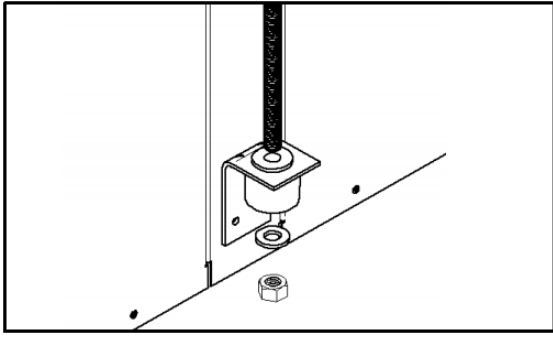

Fig. 6 — Hanging the Unit
3. Install rubber grommet on the bracket as shown in Fig. 6.
4. Hang the unit and assemble the field-provided threaded rod, nuts, and washers on the brackets as shown in Fig. 6.